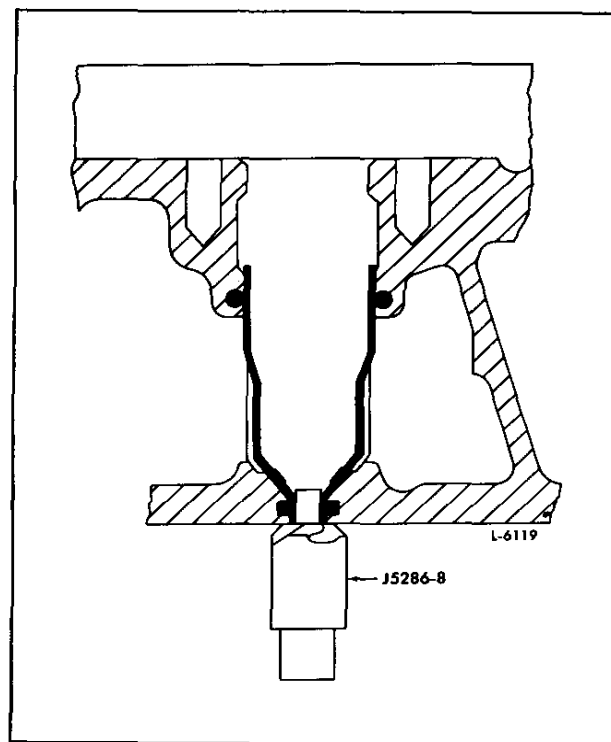

Fig. 5 - Refinish Injector Tube Tip
a. With the cylinder head firedeck in a workable position, insert the pilot J 5286-8 tube tip refinisher into the small hole of the injector tube as shown in Fig. 5.